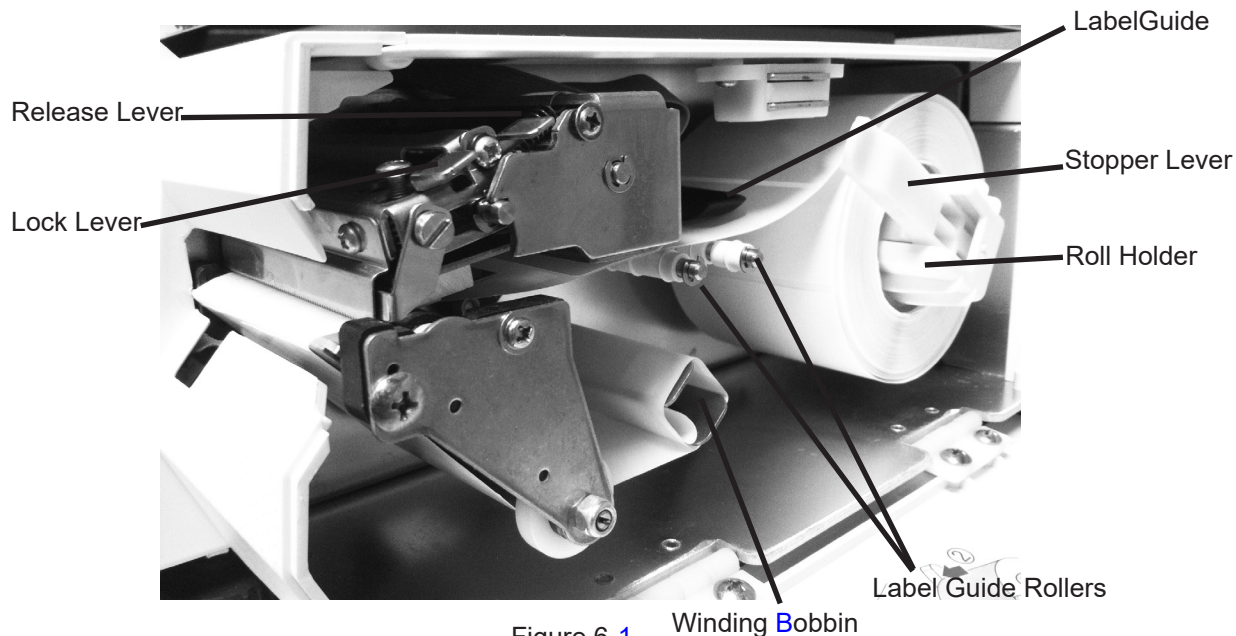

Figure 6-1 Winding Bobbin
2. Release the printer head by pushing down on the release lever. See Figure 6-1.